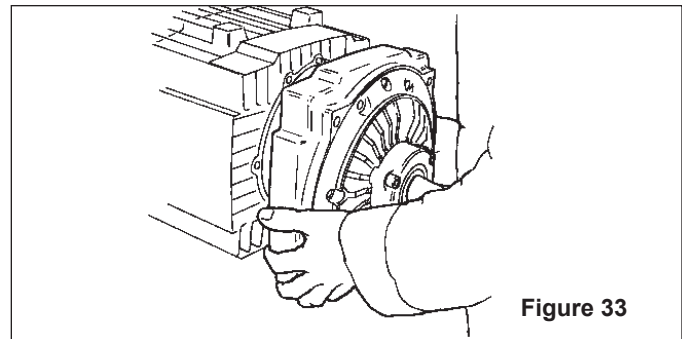

Figure 33
- With a new sideplate O-ring installed (15), attach one sideplate assembly. All internal surfaces of body, rotor, blades and sideplates must be free of oil or grease. Be sure the sideplate is matched to the rotor end where the clearances were set. See Figure 33.